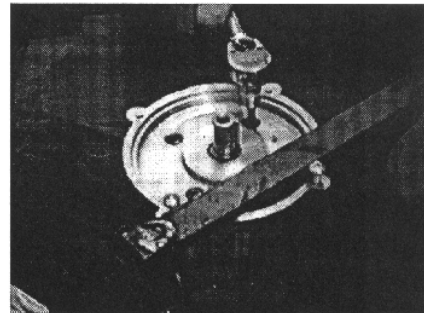

Figure 4
- (c) Once removed, locate two of the M6 fan guard screws in the motor end plate holes, to allow a bar to lock against them preventing the pump from rotating when the 4 no. M6 cap head socket screws are undone allowing the motor end of the pump to be removed. **(Fig 4)**